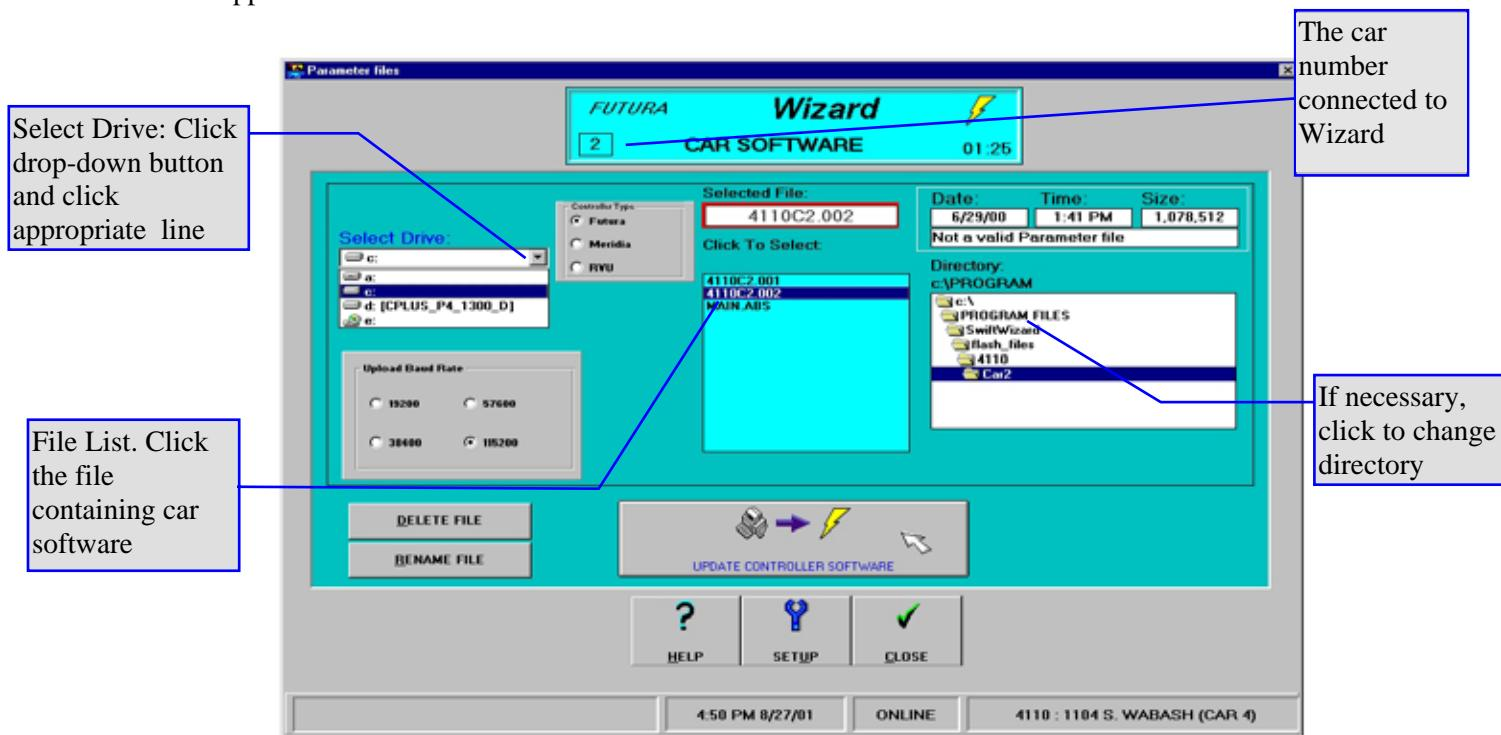

Figure 13: The Flash Upload Window.
1. Start the Wizard by double-clicking the Wizard icon on the screen Desktop. The SPU Connection Screen Window (shown in Figure 9) will appear. Click the FLASH button. The Flash Window (shown in Figure 13) will appear.
Window which then appears, using its “Browse” button. In any case, whatever the initial directory you can Browse around in the Car Parameters Window, which is the same one used for Flash Upload shown in Figure 13. The browsing is described in its accompanying text above.